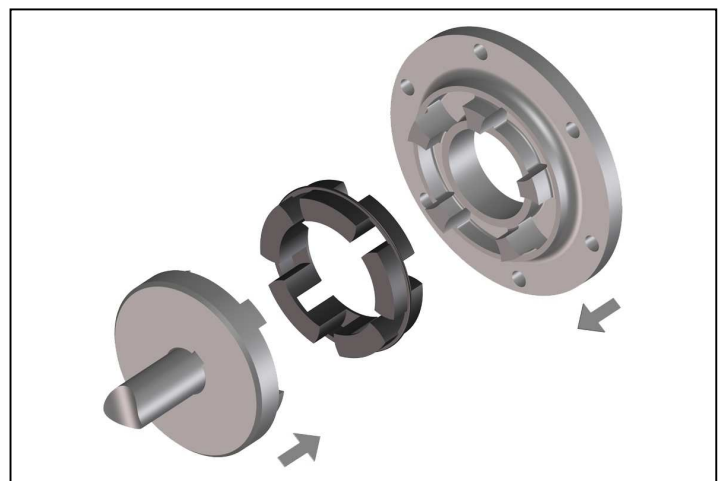

Fig. 5
- Push the shaft end with the mounted coupling half and the coupling flange together (Figure 5).